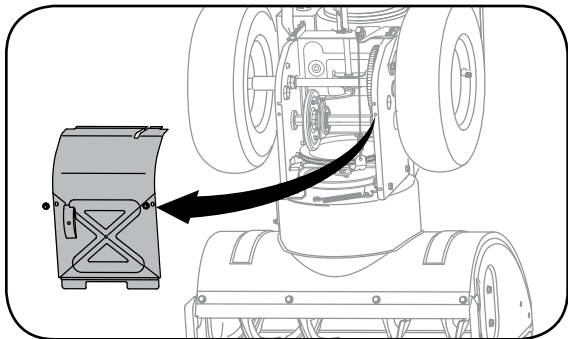

Figure 6-5
2. Carefully pivot the snow thrower up and forward so that it rests on the auger housing. Remove the frame cover from the underside of the snow thrower by removing four self-tapping screws which secure it, Figure 6-5.